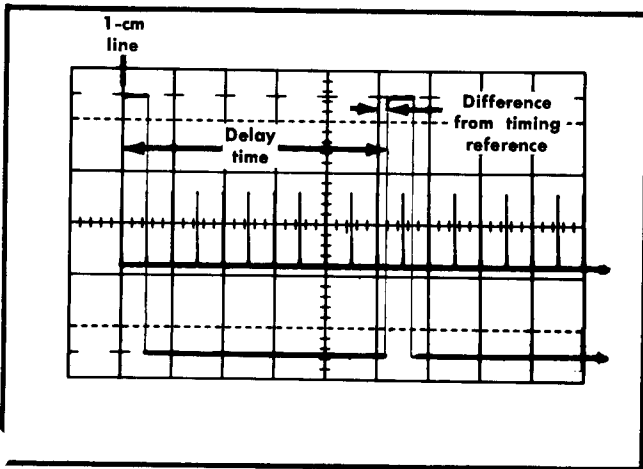

Fig. 6-9. Typical test oscilloscope display for checking delay timing accuracy.
e. Check for—Test oscilloscope displays with a delay period between corresponding points on the two pulses (see Fig. 6-9), as indicated in the last column of Table 6-6.